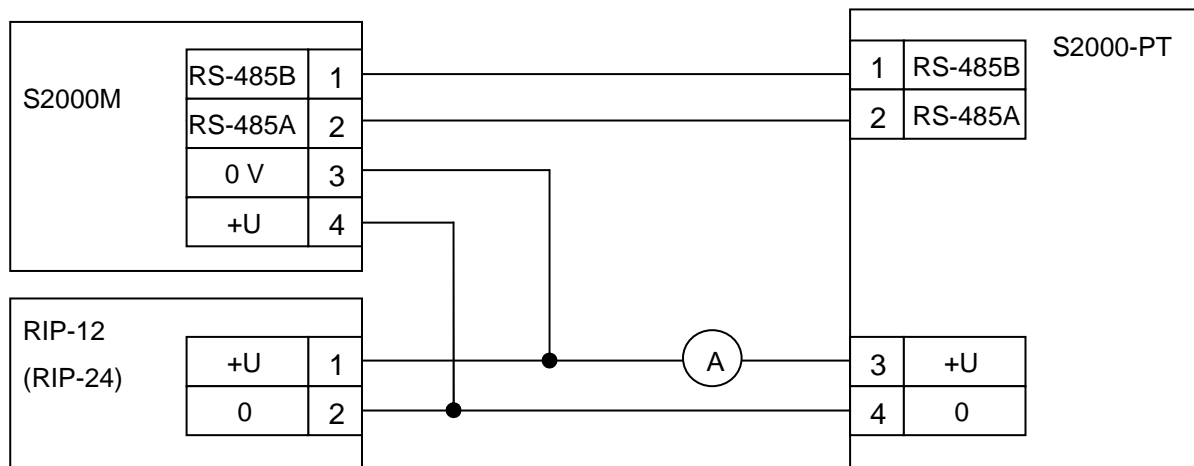

Figure 17. Wiring the S2000-PT for Functional Testing
1. Wire the S2000-PT for inspection as shown in Figure 17, but not connecting the wires of the RS-485 bus to the S2000M console.